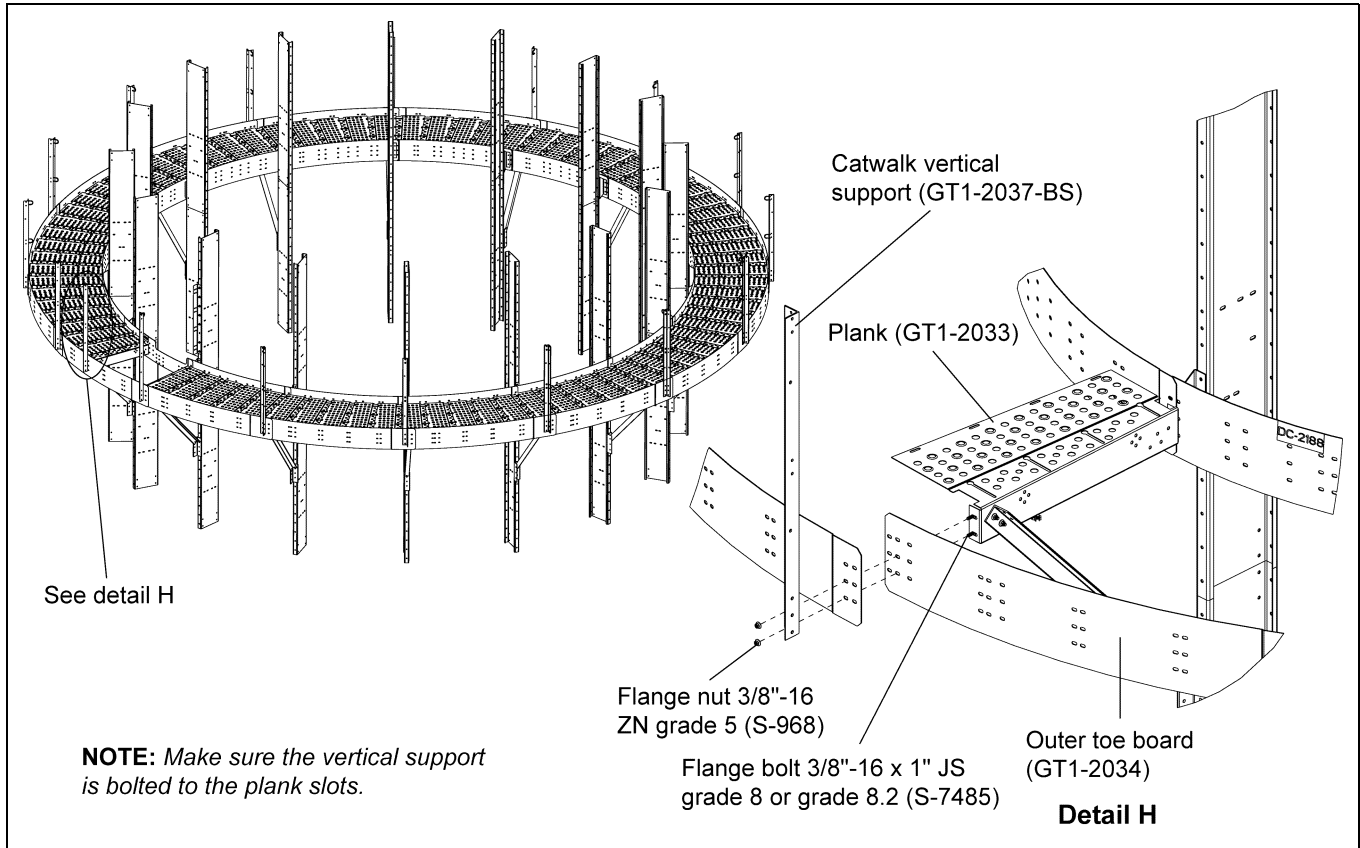
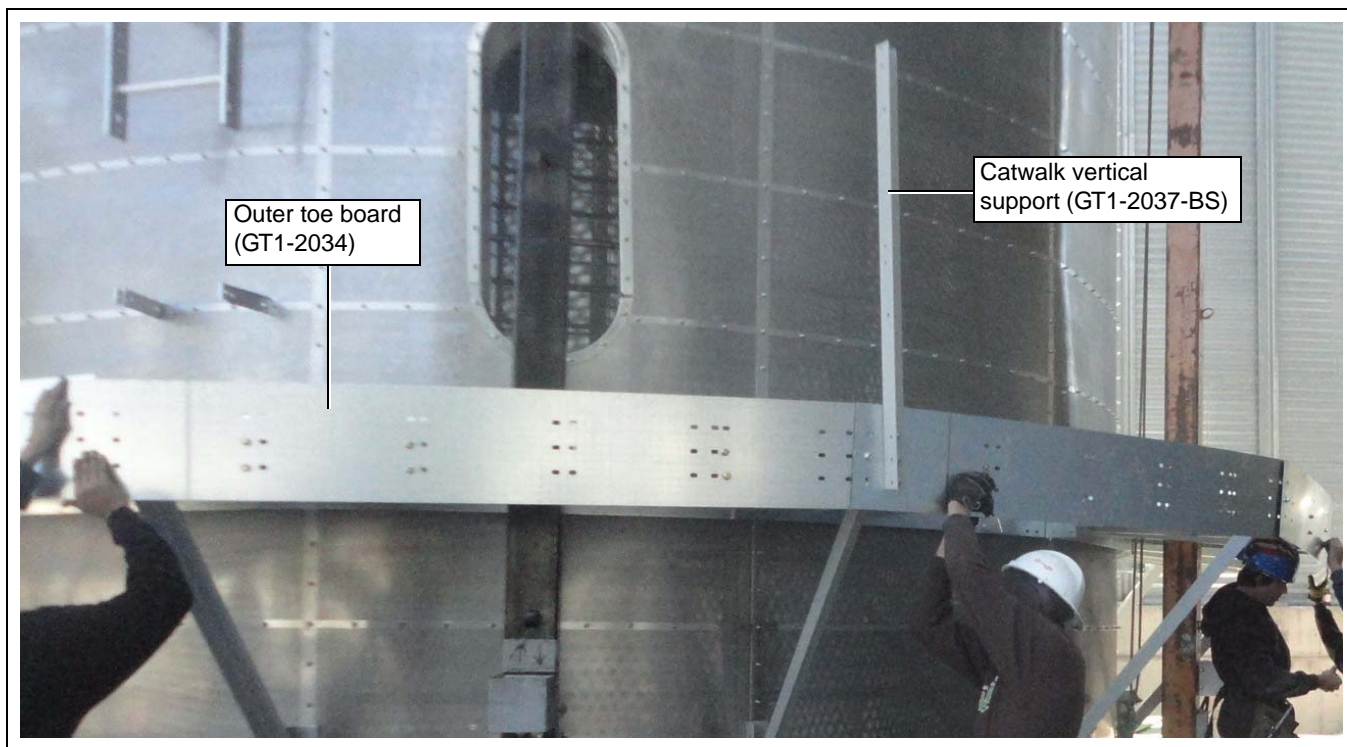

Figure 4R
Figure 4T
1. Install all the outer toe boards (GT1-2034) to the planks (GT1-2033). (See Figure 4R.)
2. When installing the outer toe board with planks, install the catwalk vertical support (GT1-2037-BS) simultaneously at proper locations using 3/8"-16 x 1" JS grade 8 or grade 8.2 bolts (S-7485) and 3/8"-16 ZN grade 5 nuts (S-968). (See Figure 4R and Figure 4T on Page 25.)